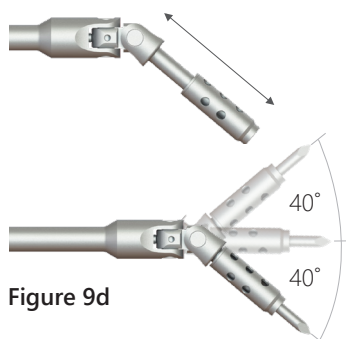

Figure 9d
- The Self-Guided Poly Angle Awl and Self-Guided Poly Angle Drill have spring-loaded sleeves which interface with the Screw hole pockets at a 40° angle, creating centered pilot holes (Figure 9d).